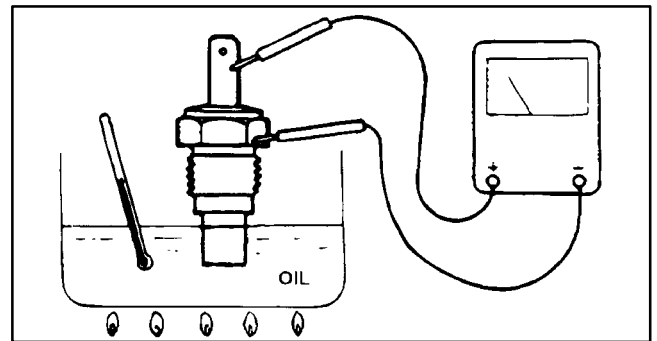

Figure 12
2. Put the switch in a container of oil with a thermometer and slowly heat the oil (Fig. 12).